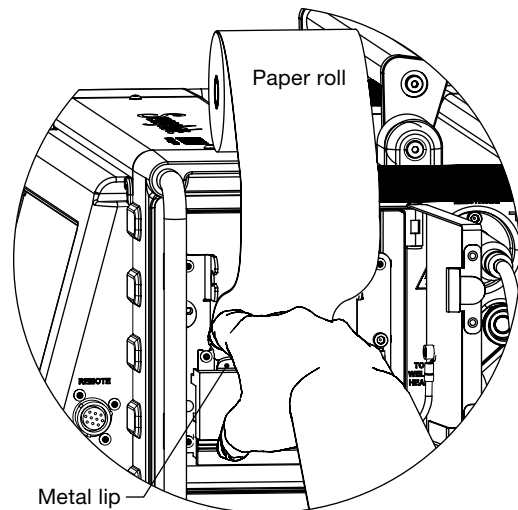

Fig. 52—Loading the Paper Roll
6. Gently slide the end of the paper between the paper guides and behind the **metal lip** (Fig. 52) as far as it will go. After a few seconds, the printer will detect the paper and automatically feed it through the printer.